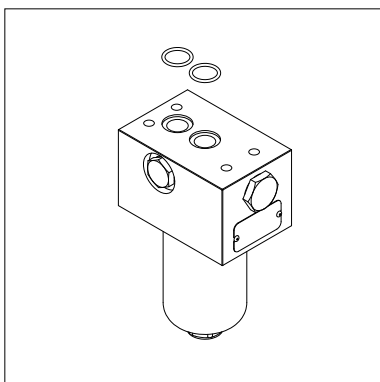

fig. 22
- (Fig. 22) Replace the O-rings of the manifold